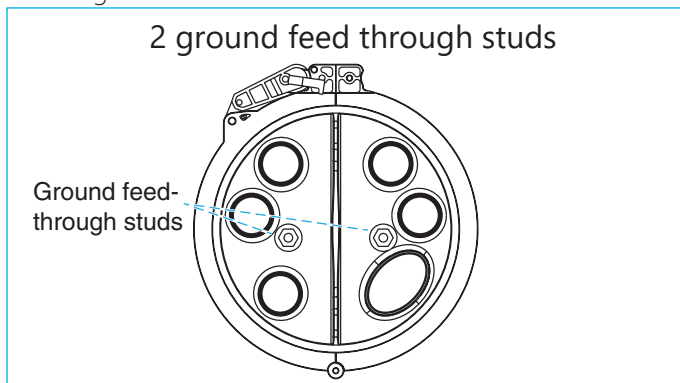

Figure 17.
- Grounding using two ground feedthrough studs. (Figure 17)